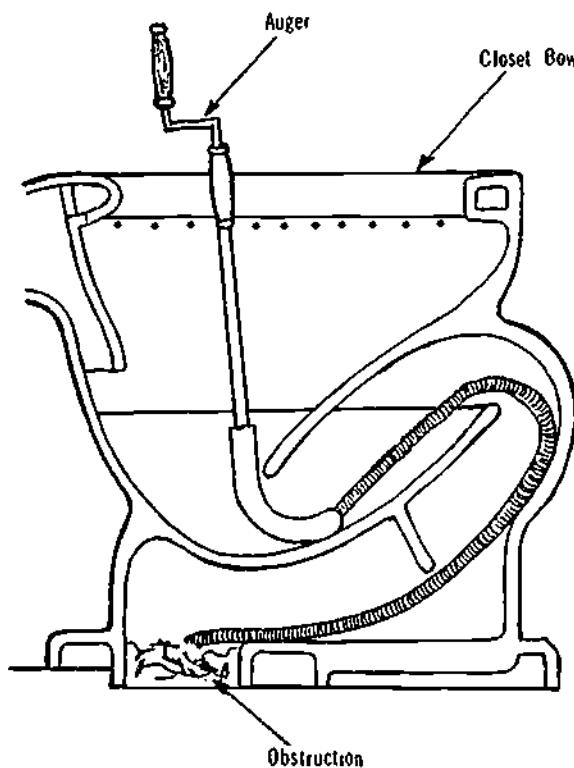

Figure 23-16. Use of Closet Auger
47. Do not use a force cup to clear blockage in a water-closet bowl when you suspect that a large or irregularly shaped object is the cause of the stoppage. A closet auger may be used if the obstruction cannot be forced through the trap with the force cup. Use the closet auger as in Figure 23-16.
48. The closet auger is a cane-shaped tube with a coiled-spring "snake" inside. Its handle rotates the coiled spring. To put the closet auger into the trap, first draw the coiled spring all the way up into the cane-like curve of the auger. Hook the cane end, with its projecting hook, into the trap (see Figure 23-16). Begin turning the handle to rotate the coiled spring as it is pushed down into the trap. Continue to rotate the handle until the snake reaches the obstruction, then turn the handle slowly until the obstruction is caught on the coiled hook of the auger.